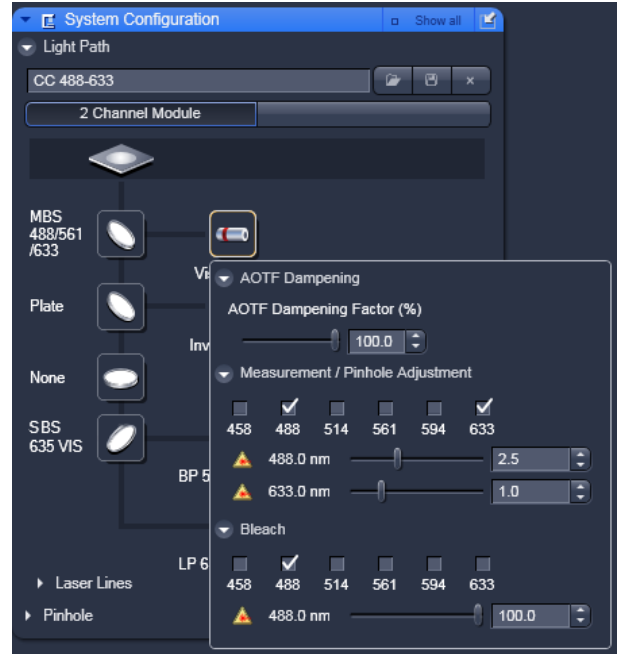

Fig. 28 System Configuration tab - Light Path panel with laser submenu
- Press the **Laser** button to display the Laser control expansion submenu (Fig. 28). Alternatively open the **Laser Lines** by clicking on the triangle. They provide settings for: